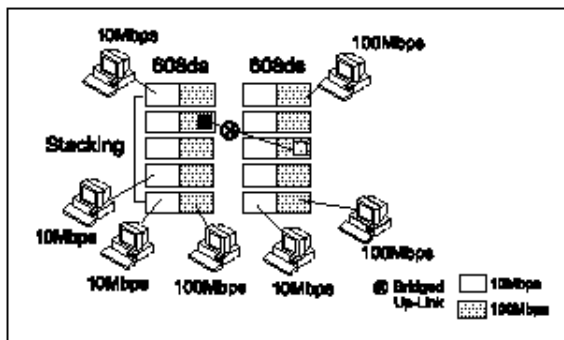

Figure 3-5 Network domains and bridged uplink.
- All PCs with 10Mbps network adapter cards transmit data at 10Mbps and form the 10Mbps network domain, as shown in *Figure 3-5*.
- PCs with 10/100Mbps network adapter cards will auto-negotiate and switch the network speed to 100Mbps. They transmit data at 100Mbps and form the 100Mbps network domain, as shown in *Figure 3-5*.